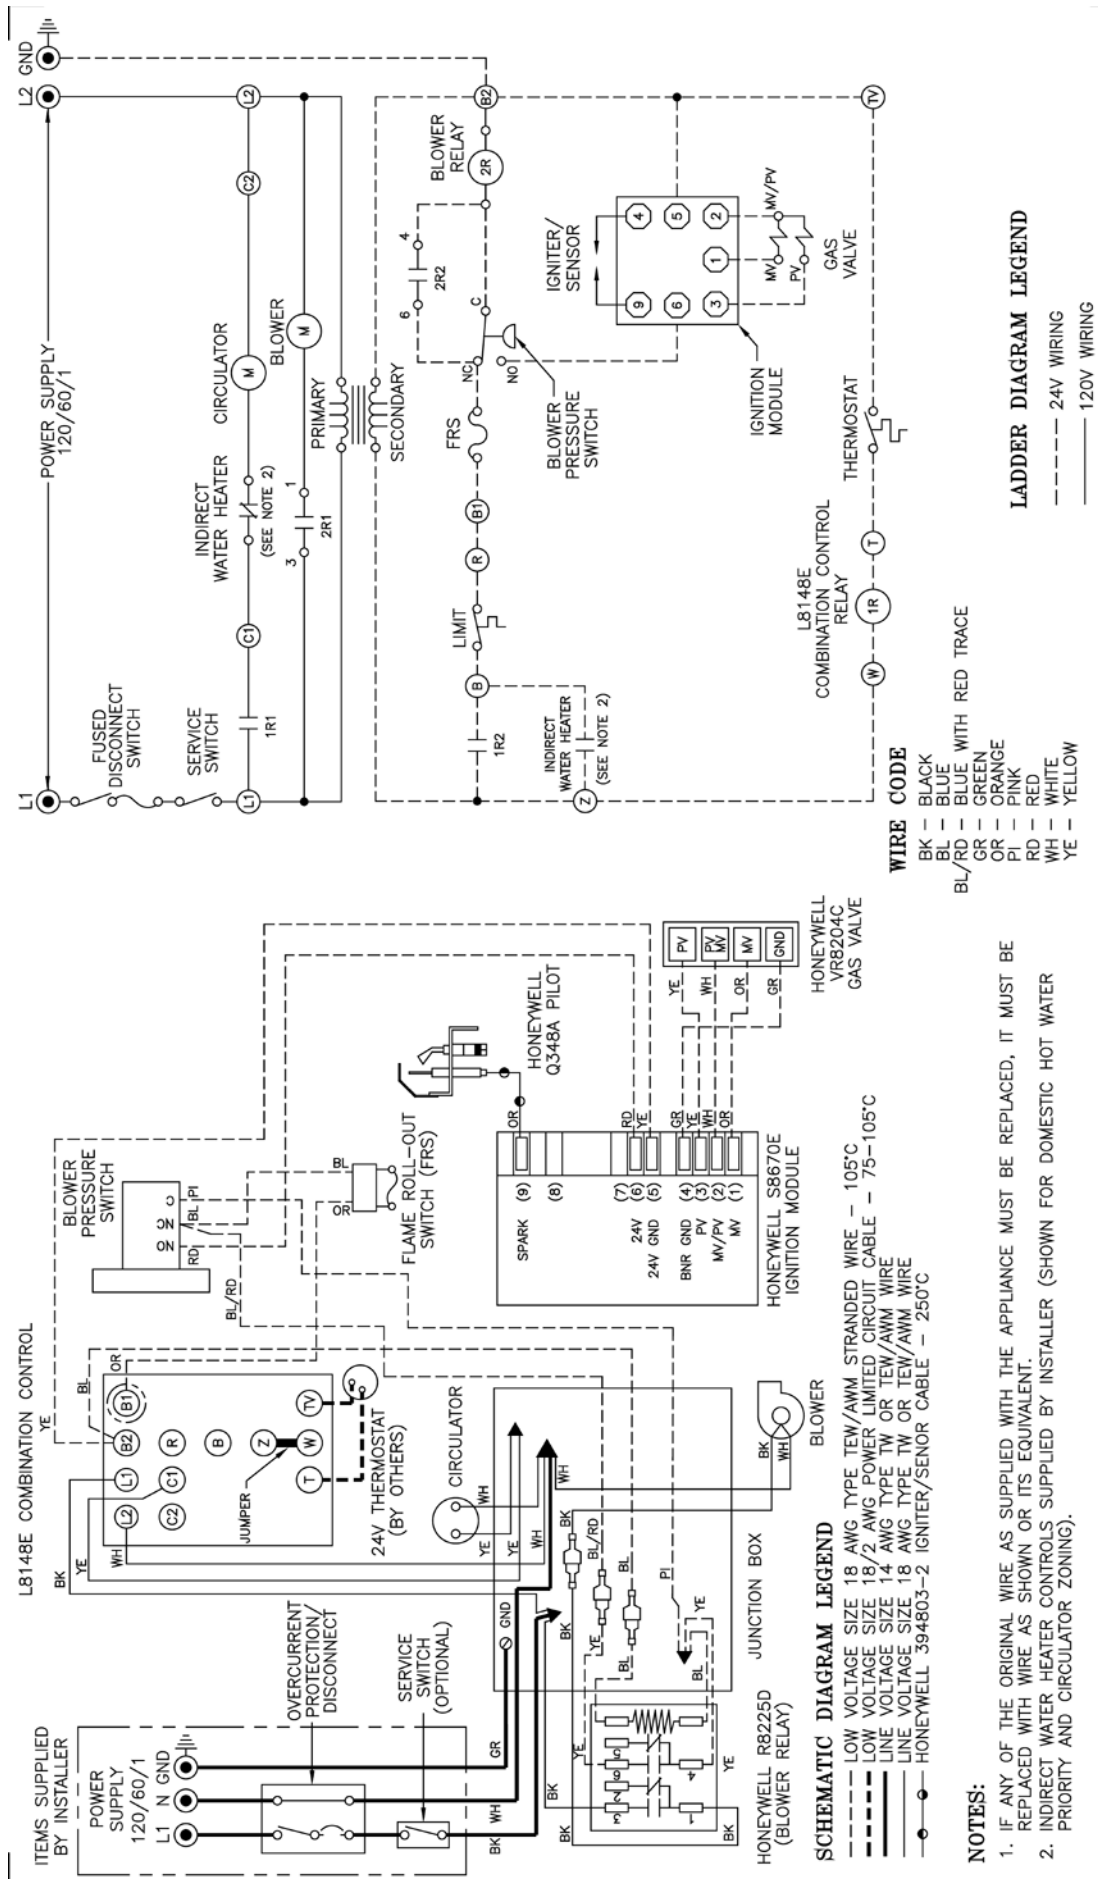

Figure 11: Wiring Diagram
- C. Wire thermostat.** Provide Class II circuit between thermostat and boiler. Run wires through grommet in L8148E Combination Control. Set thermostat heat anticipator to 0.4 amps. See Figure 11.
- D. Wire boiler.** Boiler is rated for 120 VAC, 60 hertz, less than 12 amperes. A separate electrical circuit must be run from the main electrical service with an over-current device/disconnect in the circuit. A service switch is recommended and may be required by some local jurisdictions. Connect circuit to black and white wires and green ground screw. See Figure 11.
- E. New Yorker Link SL™ indirect water heater (if used).** See Figure 11. Also refer to New Yorker Link SL™ *Installation, Operating and Service Instructions*.